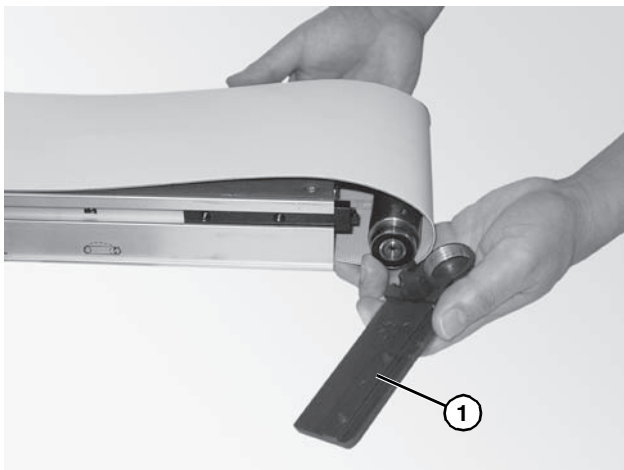

Figure 34
2. Remove the head plate (Figure 34, item 1) from the conveyor frame.